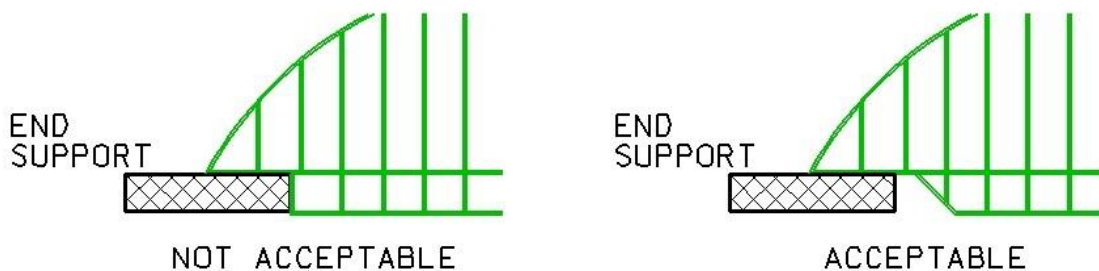

Figure 5: Use of End Support
- ◆ The support for the bridge shall be from the top of the level surfaces of the end supports only. The vertical edge of the supports shall not be used as a support in any way (refer to Figure 5).